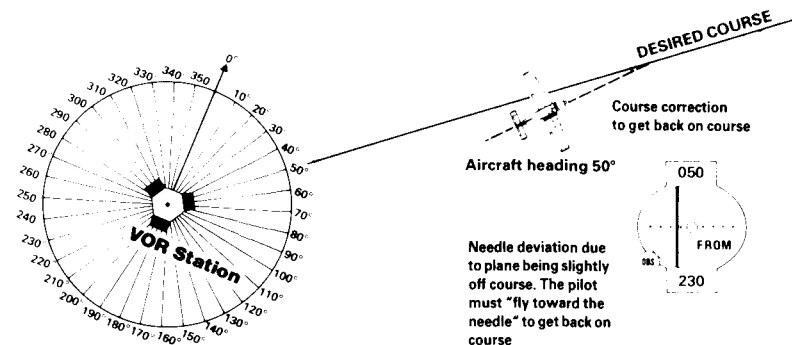

Figure 13. Flying from a VOR Station
1. Select a VOR station on the map and tune the NAV1 receiver to the station. Refer to Fig. 13.